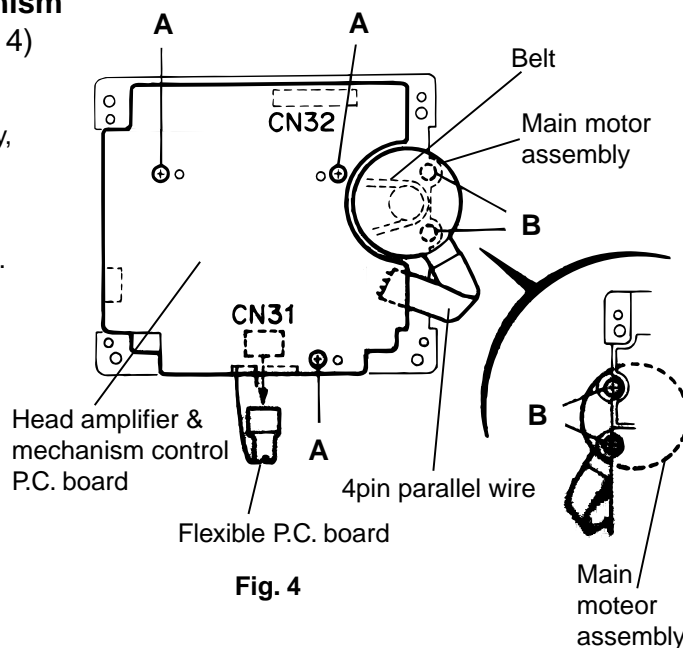

Fig. 4
■ Removing the head amplifier & mechanism control P.C. board (See Fig. 4)
■ Removing the main motor assembly (See Fig. 4~6)
1. Remove the two screws **B** retaining the main motor assembly (See Fig. 4, 4a).